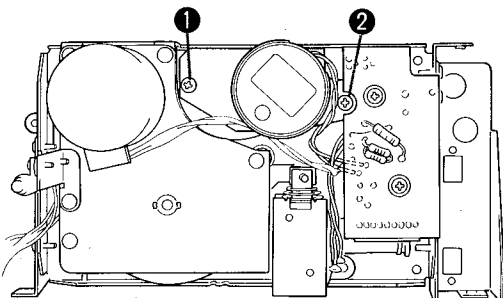

Fig. 14
⑤ REEL MOTOR AND CLUTCH REPLACEMENT
1. Remove the screws ① and ② in Fig. 14 and then remove the reel motor bracket assembly from the cassette mechanism.
- (Refer to Fig. 14 when wiring.)